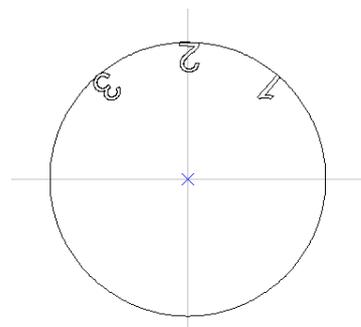

Fig. 3.3.22
**Reverse:** Reverse the text part of the art text, see Fig.3.3.22.